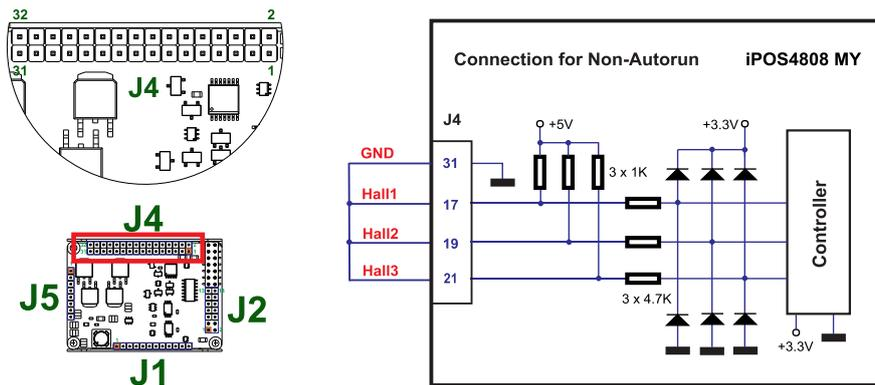

Figure 3.33. Temporary connection during power-on to remove the drive from *Autorun* mode
- Hardware – by temporary connecting all digital Hall inputs to GND, during the power on for about 1s (until the green led is turned on), as shown in *Figure 3.33*. This option is particularly useful when it is not possible to communicate with the drive.